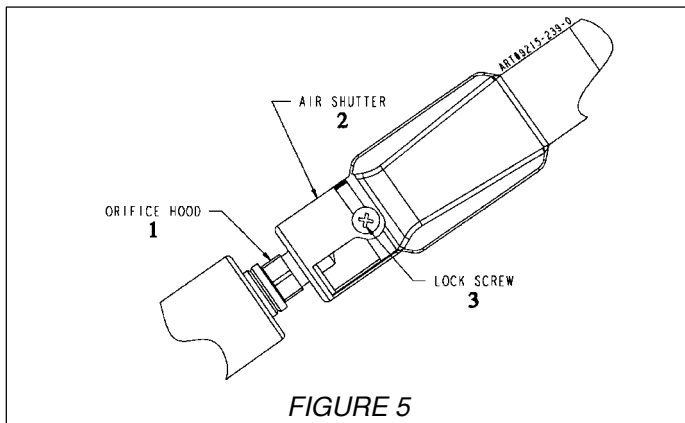

FIGURE 5
1. Yellow flame on burner - open burner air shutter to the widest opening that will not cause the flame to lift or blow off the burner when cold. (See #2 on figure 5). Some yellow tipping on LP is normal.
2. Distinct blue flame but lifting - close burner air shutter to the point where it will not cause the flame to lift or blow off the burner when cold. (See #2 on figure 5).